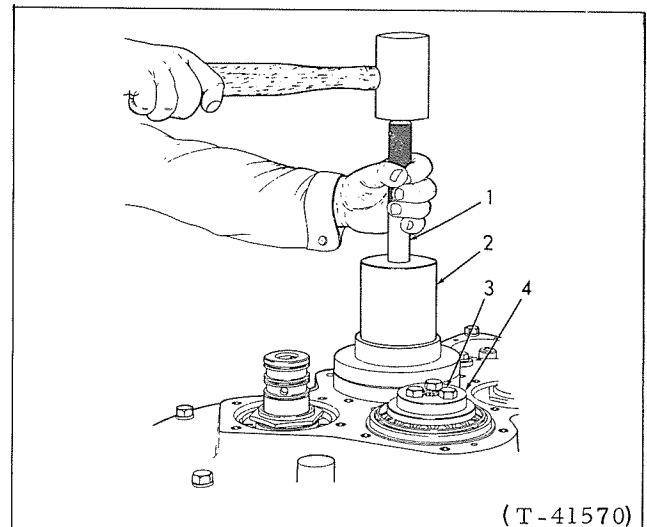

FIG. 50 INSTALLING INPUT SHAFT FRONT BEARING
- i. Refer to Figs. 50 and 51, install clutch shaft front bearings and input shaft front bearing. Make certain the bearings are seated on the shafts and in counterbore in front cover.